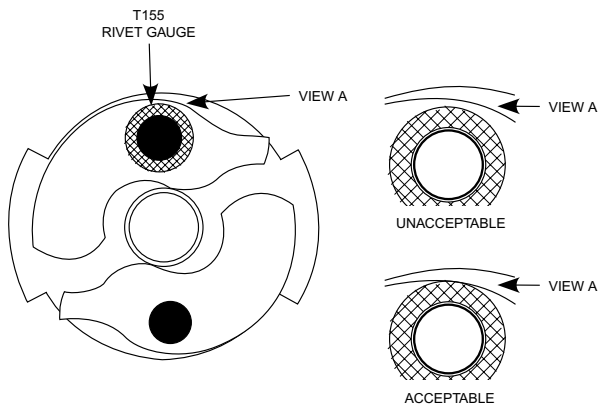

Figure 3.3.4A
6. Install the T155 Rivet Gauge over the rivet head. (See Figure 3.3.4A.)
9. If the edge of the pawl is visible beyond or can be felt to extend beyond the edge of the T155 Rivet Gauge, then replace the coupling. (See Figure 3.3.4A.)